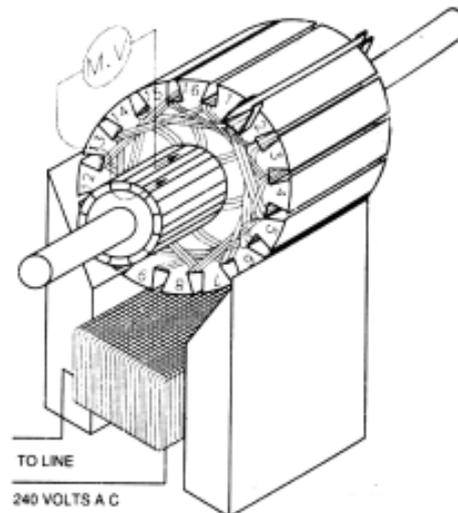

Fig. 6.20
**Growler test for an open coil:** To locate an open coil with a growler, set up the armature on the growler in the usual manner. Test the top two adjacent bars with an AC milli-voltmeter as shown in Fig. 6.20.